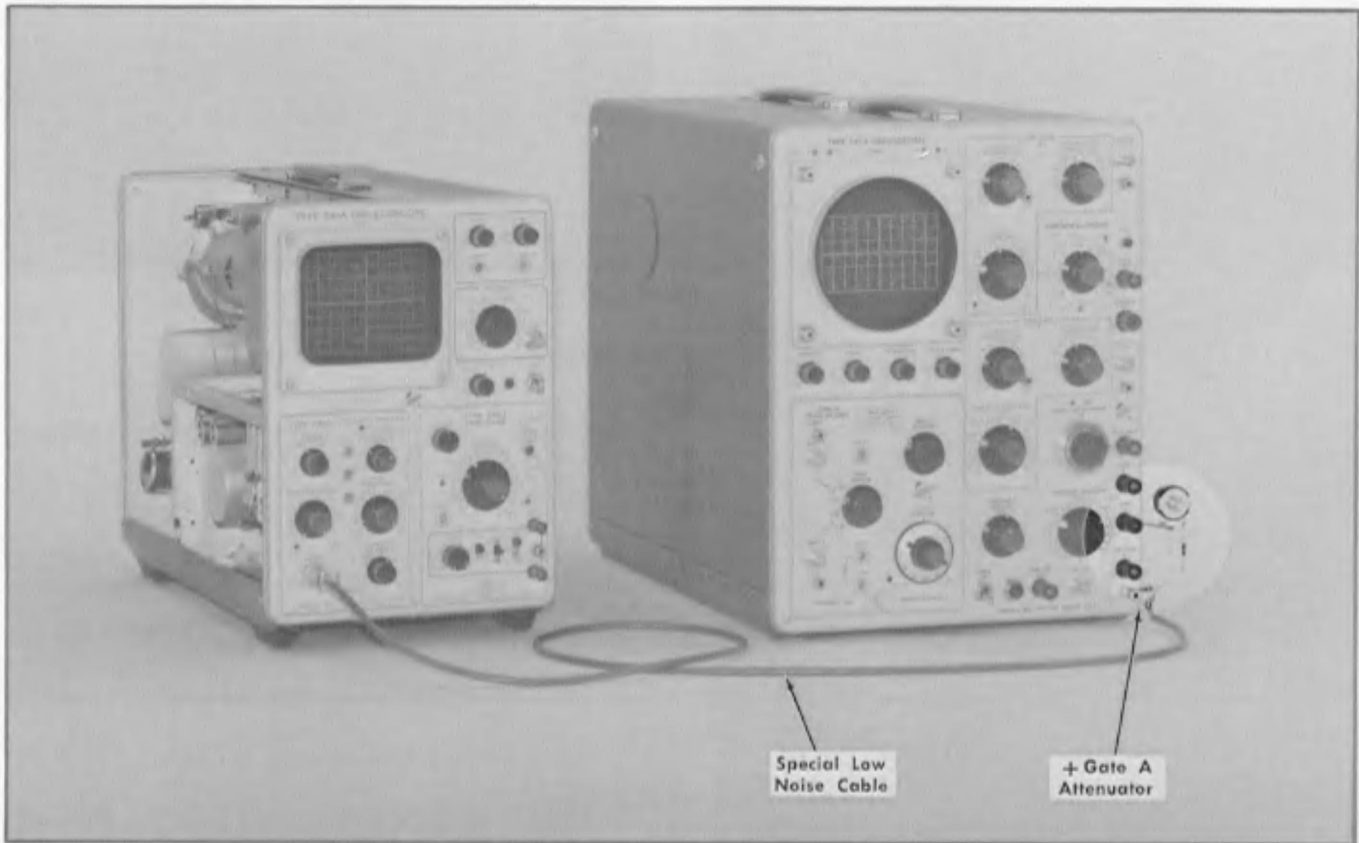
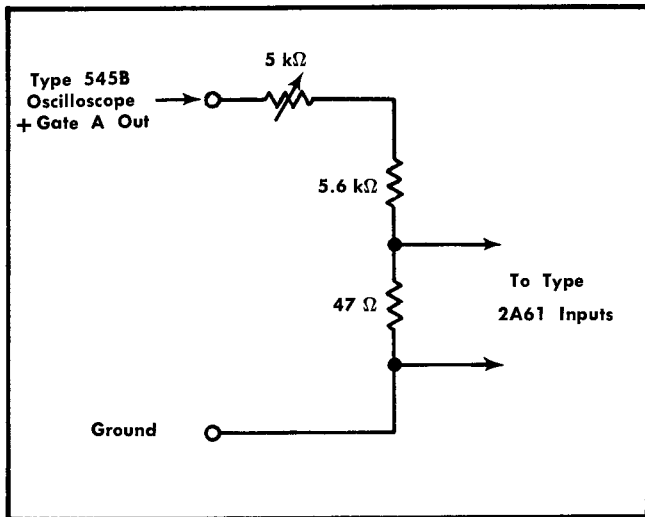

Fig. 6-25. Initial test equipment setup for step 19.
Fig. 6-26. Diagram of suggested + Gate attenuator.
- a. Test equipment setup is shown in Fig. 6-25.
- b. Connect the gate attenuator suggested in Fig. 6-26, between the + Gate A and Gnd on the Type 545B Test Oscilloscope. Shown connected to the test oscilloscope in Fig. 6-25.
- d. Connect both shielded pairs of the Low Noise Input Cable across the 50 Ω resistor of the special gate attenuator, as shown in Fig. 6-25.